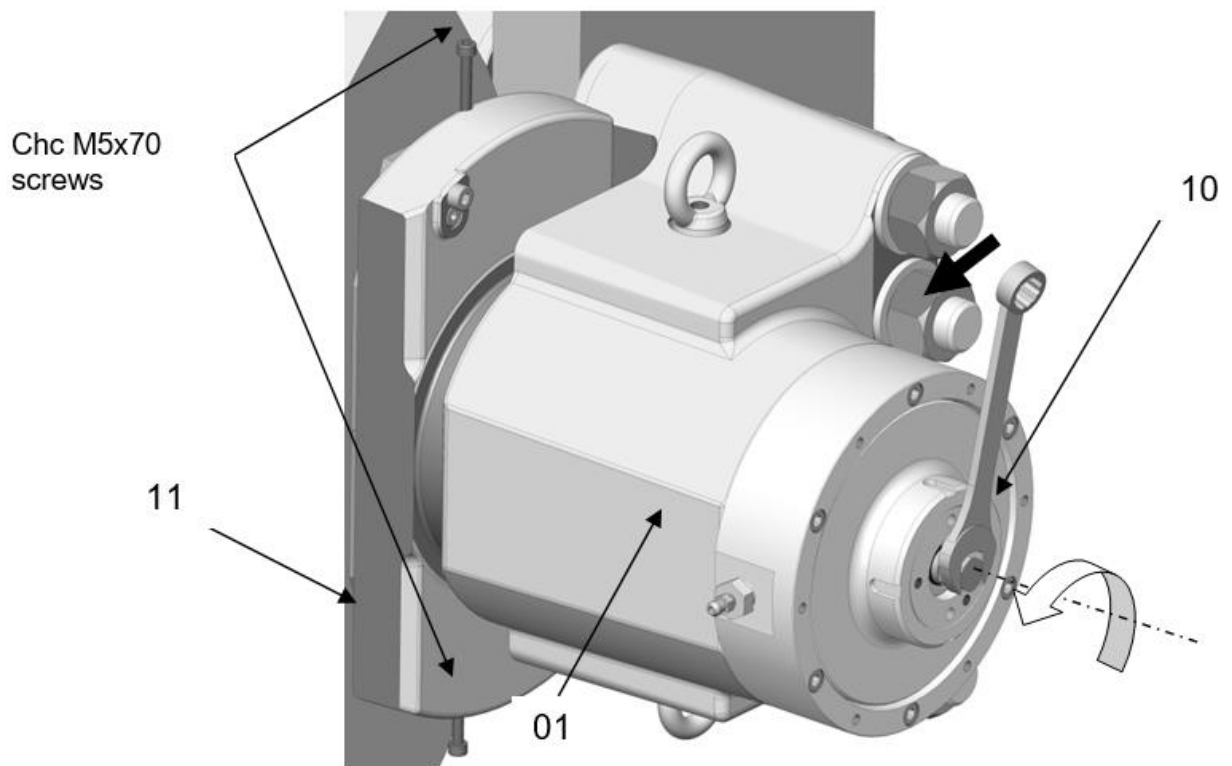

Fig. 5.4
3. Turn the wrench anti-clockwise to push back the jaw to the maximum Fig.5.4. The clearance between the pad holder and the disc must not be more than: 9 mm + remaining pad thickness.